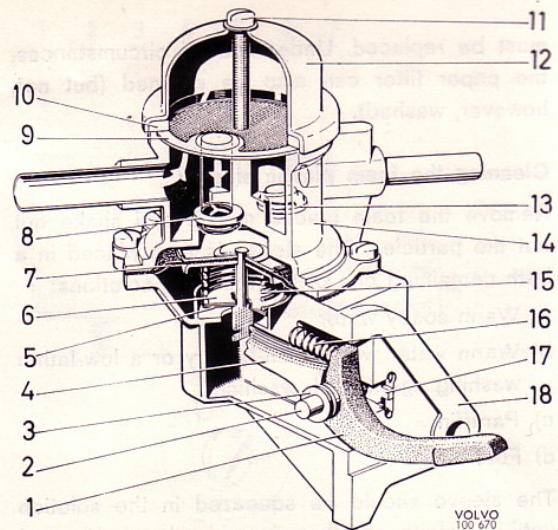

Fig. 123 Fuel pump, AC
4. Remove the spring (15, Fig. 123) by turning the washer (6) so that the hole in the washer coincides with the wide end of the diaphragm rod.
5. Remove the peening for the rocker arm rider (17) with, for example, a grinding rod, and remove the rocker arm (1) with pin (2) and lever (4).